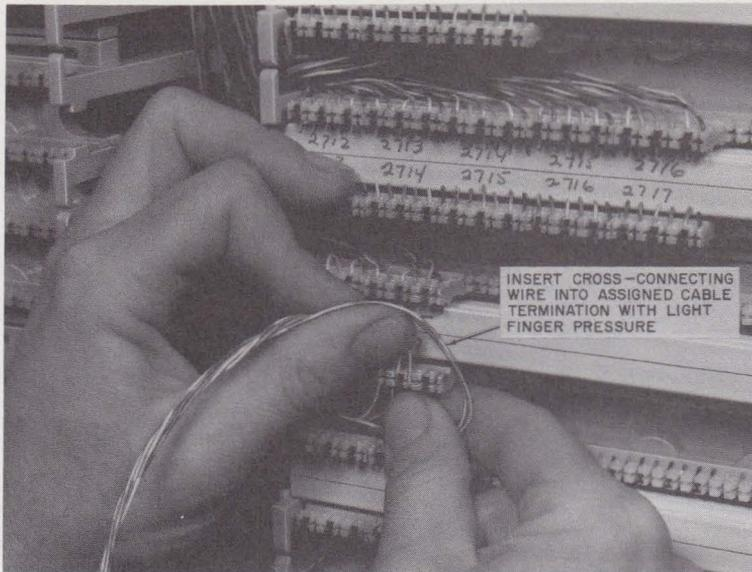

Fig. 21—Inserting Cross-Connect Wire
3.19 Insert the F-type, 24-gauge cross-connect wire into the connecting block slots as shown in Fig. 21. Light finger pressure is sufficient to insure retention of the wire in its proper location. Leave the 2 inches of slack in the wire for tracing and repairing. Cross-connect wire may be routed through either fanning strip for shortest wire runs.